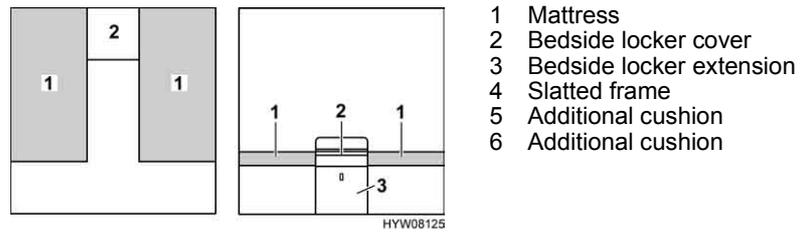

Fig. 81 Prior to conversion
- Remove the bedside locker cover (Fig. 81,2) and put it to one side.